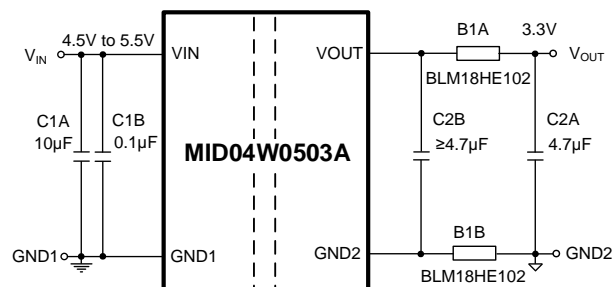
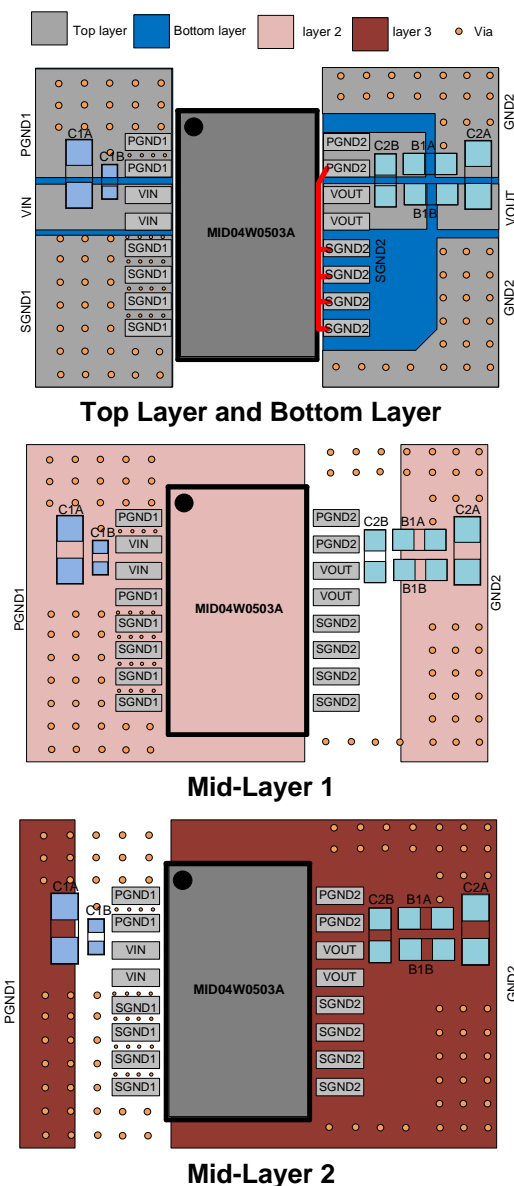

Figure 2: Recommended EMI Schematic
Figure 3: Recommended PCB Layout
8) See Figure 2 on page 9 and Figure 3 on page 10 for details on the EMI circuit and PCB layout.
There are two main techniques used for PCB layout. Figure 2 and Figure 3 on page 10 show examples of layouts that are CISPR 32 Class B certified. The first technique to reduce EMI is to build a low-ESL Y-capacitor using a 4-layer PCB layout to filter high-frequency noise on the secondary side. The Y-capacitor is formed with the two overlapping middle layers. Mid-layer 1 is the PGND1 copper plane, which forms the Y-capacitor's top plate. Mid-layer 2 is the ground after the ferrite bead (GND2), which forms the Y-capacitor's bottom plate. More overlap in these layers provides a larger Y-capacitor value, which further reduces EMI. The second technique to reduce EMI is to use stitching vias
Aside from the two PCB layout techniques described above, a pair of ferrite beads are required to form a CLC structure filter (see Figure 2). Place this filter as close to VOUT and PGND2 as possible. The capacitor closest to the IC (C2B) should be $\geq 4.7\mu\text{F}$ to ensure a stable output. Do not place large copper areas on the secondary side pins, as this can increase switching noise and EMI. Connect SGND2 and PGND2 using a thin trace.
Efficient PCB layout is critical for stable operation. For the best results, refer to Figure 3 and follow the guidelines below:
5. Connect SGND2 and PGND2 using a thin trace (below the red trace in Figure 3) to reduce radiation.